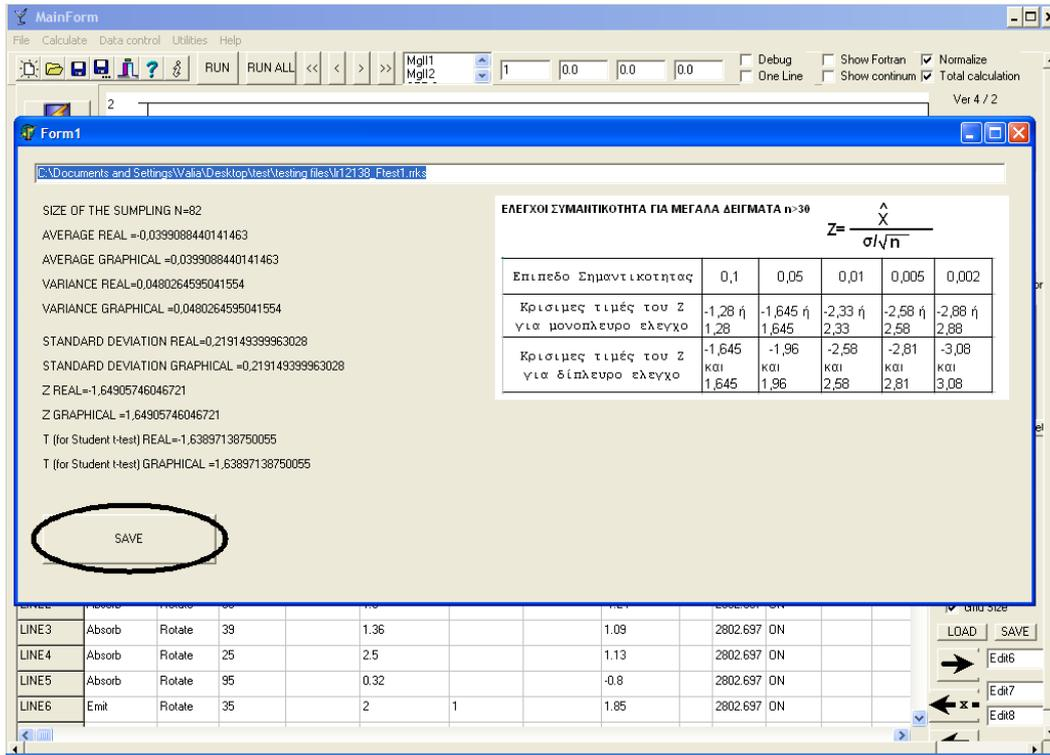

Figure 4.3
- (i) The window of Figure 4.3 opens.
(d) The window of Figure 4.3 opens.